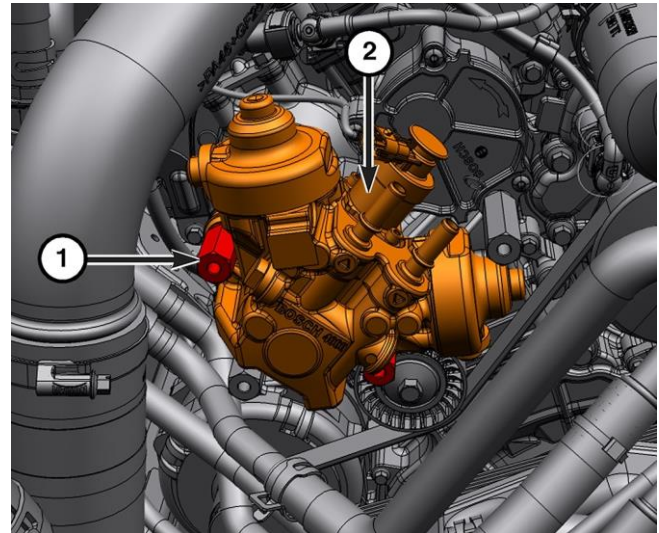

Figure 71 – HPFP Upper Bolts
7. Remove the upper bolts (1) from the high-pressure pump (Figure 71).
15. Install the Tool, High Pressure Pump Installation VM.10345 into the upper bolt locations in the upper timing cover and install the HPFP to the engine (Figure 71).
17. Remove the Tool, High Pressure Pump Installation VM.10345 from the upper bolts location and install the bolts (Figure 71).